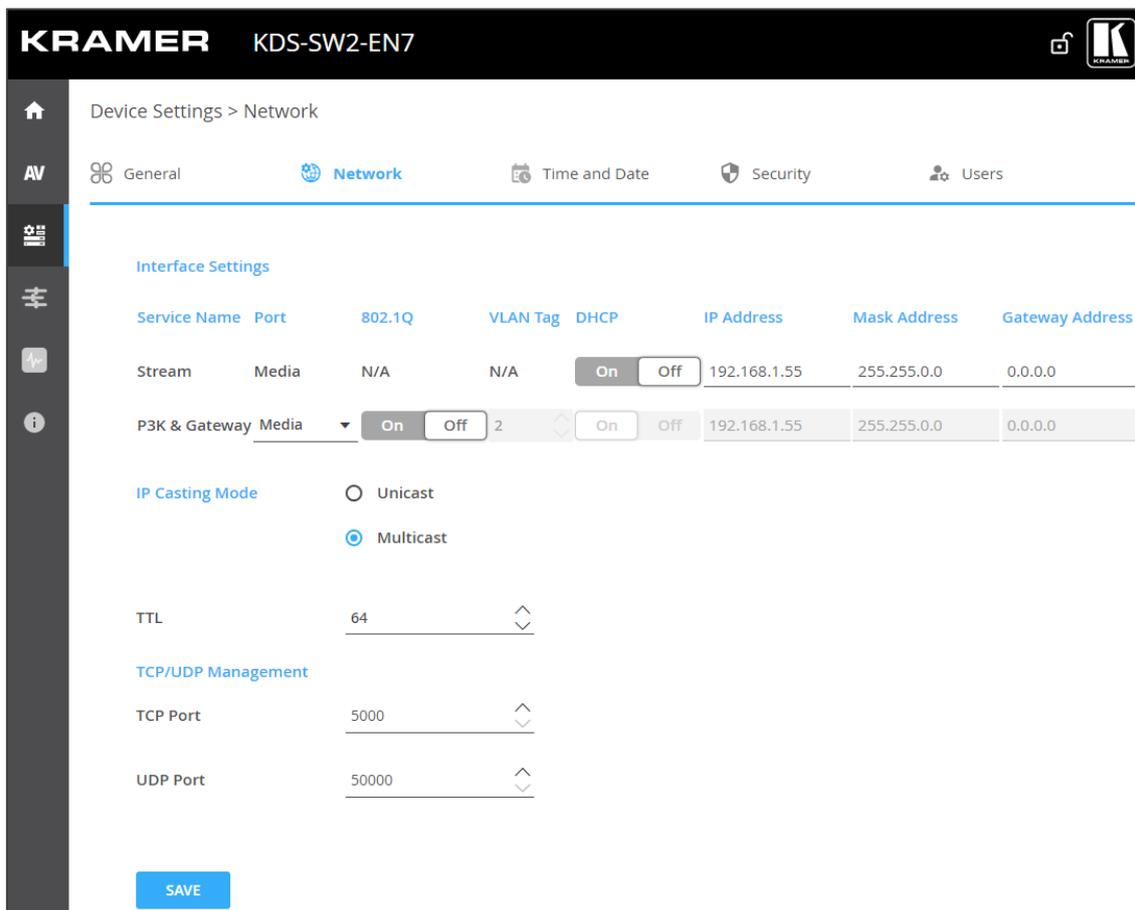

Figure 19: Device Settings Page – Network Tab
2. Select the **Network** tab. The Network tab opens (see Figure 19).